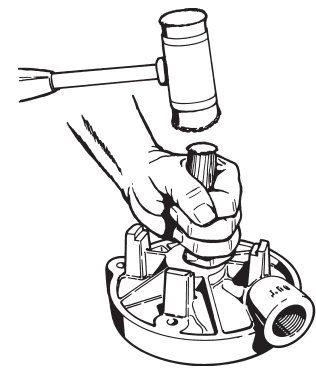

Figure 4-12
8. To remove the seat (#125). Refer to Figure 4-12. Place the motor bracket face down on a clean flat surface. Look into the opening in the center of the motor bracket, and you will see a portion of the seat. Insert the 1" dowel and, very gently, tap the seat until it drops out. Care must be taken